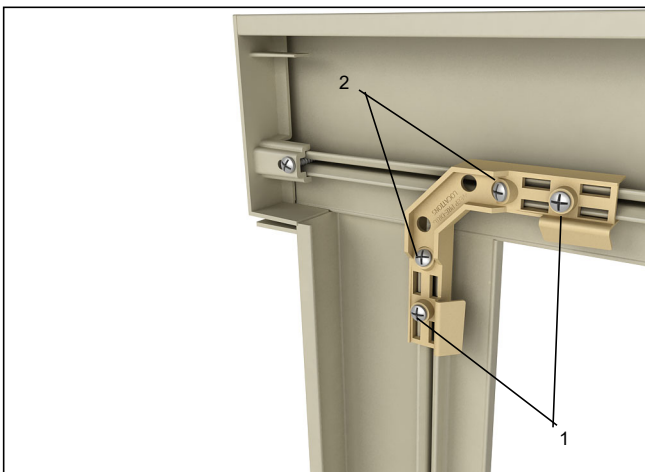

Figure 67
5. Use tab to align jamb casing to header and sill piece. Fasten the corner key with included screws. First apply the outside 90° screws (1) followed by the two inside angled screws (2). Fasten until joints are tight. Over tightening may cause screw channel to strip out. See *figure 67*.